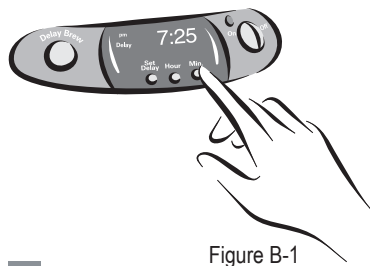

Figure B-1
- 2) Press and hold the MIN button until the clock displays the correct minute. See Figure B-1.